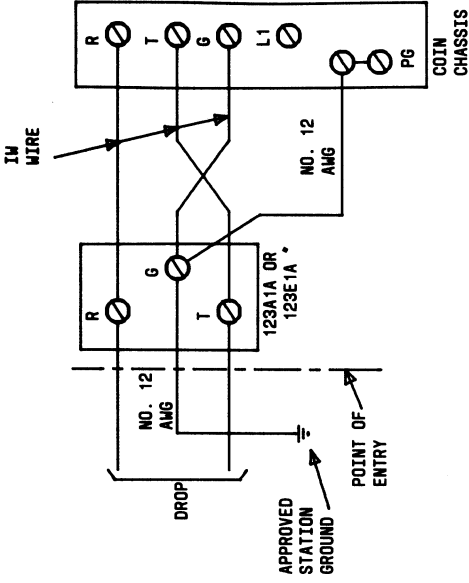
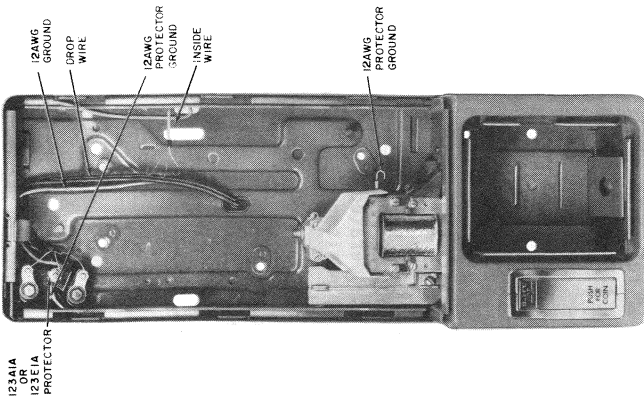

FIG. 3 - Protector Wiring When Protector is Inside Set
FIG. 4 — Protector Mounted in 1D-Type Set
- [3] Refer to FIG. 3, Page 3; FIG. 4 and 5, Page 4, for connections when protector is inside set